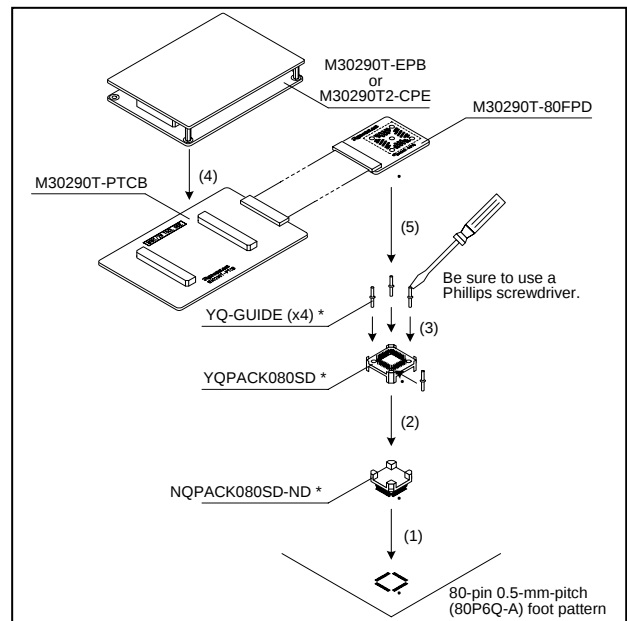

Figure 3 Connection procedure of the M30290T-80FPD
5. Connection Procedure (See Figure 3)